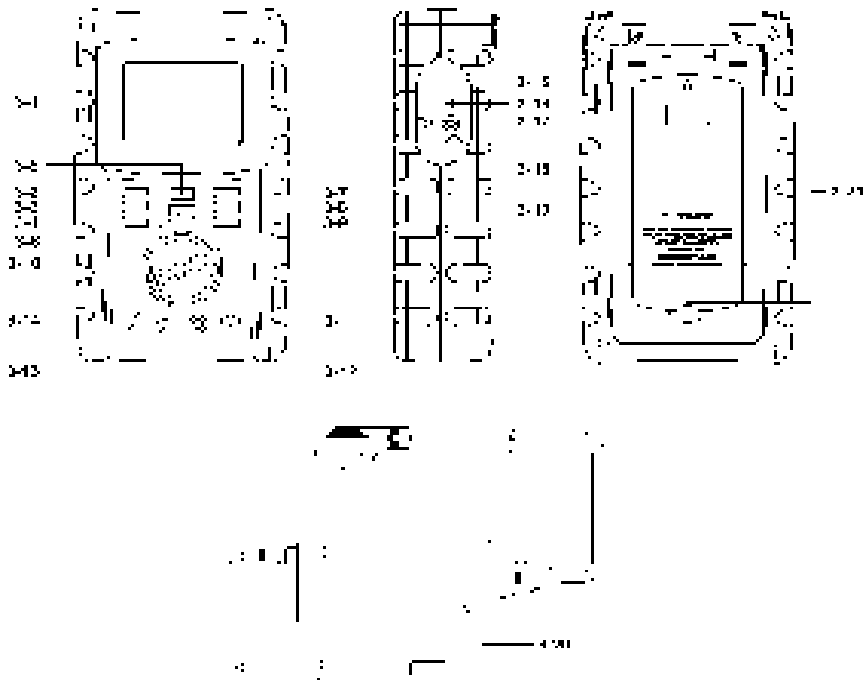

Fig. 1
- 1) Power on the instrument by rotate the "Power / Range rotary switch" ( 3-10, Fig. 1 ) to exit the " OFF " position and then select measuring range from 60000  $\mu\Omega$  to 6000  $\Omega$  according to your requirement.
- \* At 60000  $\mu\Omega$  ( 10A )must use DC 9V adapter from socket ( 3-17, Fig. 1 ).**
- \* Red cable ( with white O ring marker ) to " Force + " terminal ( 3-11, Fig. 1 )
- \* Red cable ( no white O ring marker ) to " Sense + " terminal ( 3-12, Fig. 1 )
- \* Black cable ( with white O ring marker ) to " Force - " terminal ( 3-13, Fig. 1 )
- \* Black cable ( no white O ring marker ) to " Sense - " terminal ( 3-14, Fig. 1 )
- 4) Press the "START / STOP" key ( 3-6, Fig. 1 ) will start measure the unknown device.
- 5) When your tested material has inductive, you can press " L/▲ " key ( 3-7, Fig. 1 ) for change to inductor mode ( at 600 mΩ and 60000 uΩ range ) , Display will showing " L " mark. normal is resistor mode.
Primary to press the " SET / TEST " ( 3-4, FIG. 1 ) button enter setting mode.
The last digit should flash at " H i warning value " on the display . Then press " L / ▲ " buttons ( 3-7, Fig. 1 ) to increase or " COMP / ▼ " buttons ( 3-9, Fig. 1 ) to decrease digit that you want to alter large value,
press the " BEEP / ◀ " buttons (3-8 , Fig. 1) set warning value , When user to move 1st digit unit to next digit unit (10th, 100th. 1000th).
Finished (1) procedure then press the " SET / TEST " button ( 3-4, Fig. 1 ) again, The last digit should flash at " LO warning value " on the display . Other operate way same above explain.
3) Finished (1)(2) procedure then press the " SET / TEST " button ( 3-4, Fig. 1 ) once . The function should return to TEST MODE and indicate measure value when clipping the resistor.
4) When measuring period press " COMP / ▼ " ( 3-9 , Fig. 1) button once, The display will show " GOOD " or " FAIL " symbol to inform be measure results.
***\* Press " BEEP / ◀ " ( 3-8, Fig 1) button once will start buzzer, press once again to disable " BEEP " function.***
- 3)Press " HOLD " button ( 3-5, Fig. 1 ) to release HOLD status.
- 4)Press " SET / TEST " button ( 3-4 , Fig.1) more than three secoends into sample unit mode.
- 5)Then press " L / ▲ " button ( 3-7 , Fig.1) or " COMP / ▼ " button( 3-9 , Fig.1) to select unit (meter or feet).
- 6)Press " START / STOP " button ( 3-6 , Fig.1) to sampling unit value.
- 7)Press " SET / TEST " button ( 3-4 , Fig.1) to save the value and showing the cable length .
- 8)Once press "SET / TEST" button ( 3-4 , Fig.1) more than 3 second . Will return to measure mode .
The instrument has RS232 PC serial interface via a 3.5 mm terminal ( 3-15, Fig. 1 ).